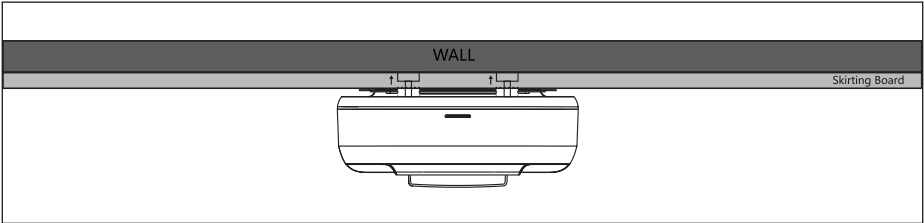

Figure 2
3. At the back of the charging station, you will find two knobs that assist in positioning the charging station against the wall (refer to Figure 2). Adjust these knobs according to the wall surface to ensure that the charging station is parallel to the wall and securely positioned. Once properly placed, make sure the front of the charging station is facing forward and connect it to the power source.